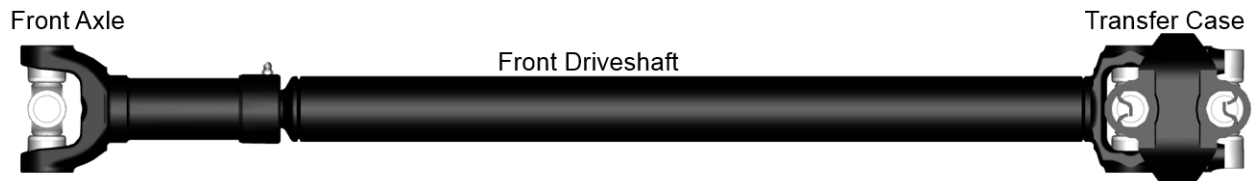
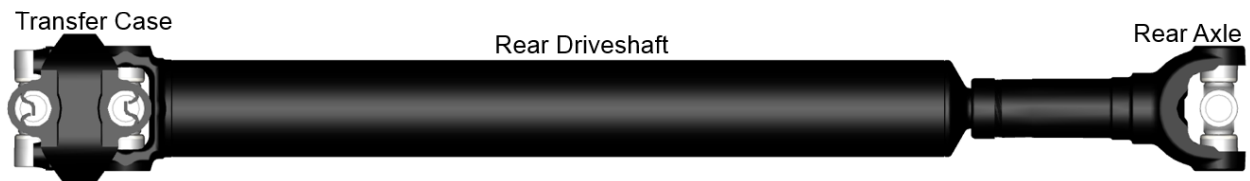

Figure 1
Figure 2
- 7) Install the new driveshaft(s) included in the kit. The single cardan/slip side of the driveshaft connects with the axle and the double cardan side connects with the transfer case. Refer to Figure 1 below for the front driveshaft and Figure 2 for the rear driveshaft.